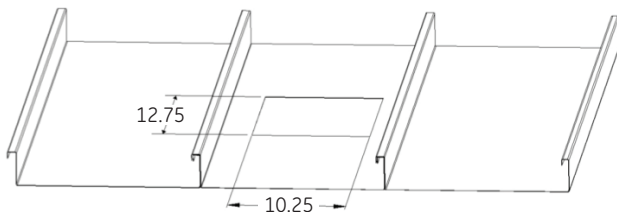

FIGURE 1
1. Cut a 10.25" x 12.75" (10.50" x 13.00" Maximum) rectangular cutout in the ceiling to mount fixture. If the size of an existing cutout in the ceiling is less than 10.25" x 12.75", enlarge the open hole to 10.25" x 12.75". The inside opening of the beauty ring can be used as a guide to show the minimum size of the cutout. (See Fig.1)